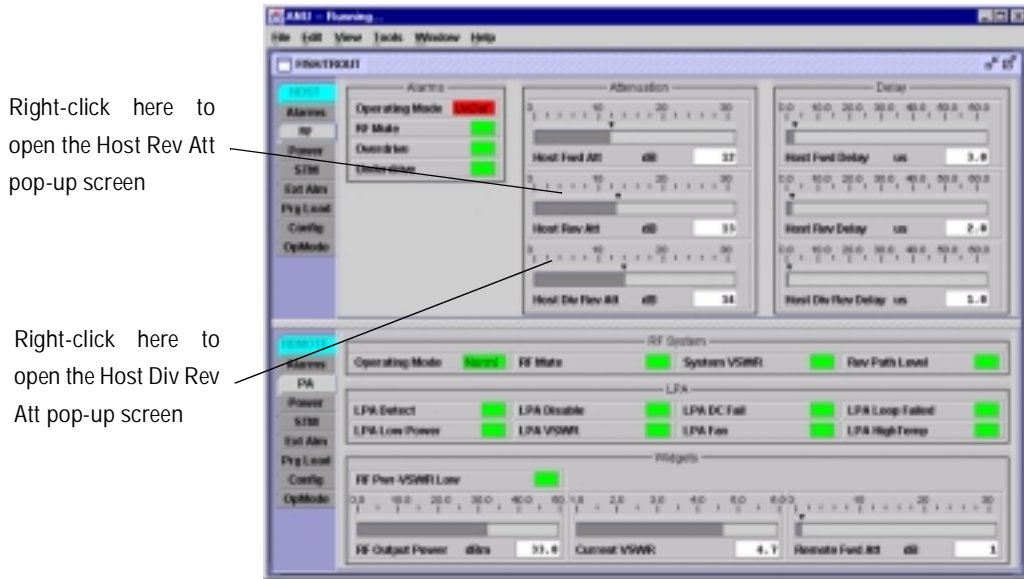
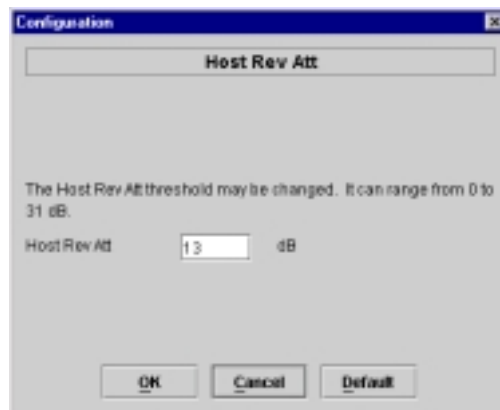

Figure 4-12. HOST RF Display
Figure 4-13. Host Rev Att Pop-Up Screen
4. Click on the **HOST RF** tab. The **HOST RF** display will open within the EMS main window as shown in Figure 4-12.
5. Right-click on the **Host Rev Att** section of the display (see Figure 4-12). The **Host Rev Att** pop-up screen will open as shown in Figure 4-13.
8. Repeat the process for the diversity reverse path by right-clicking on the **Host Div Rev Att** section (see Figure 4-12) and then entering the required attenuation value in the **Host Dive Rev Att** pop-up screen.